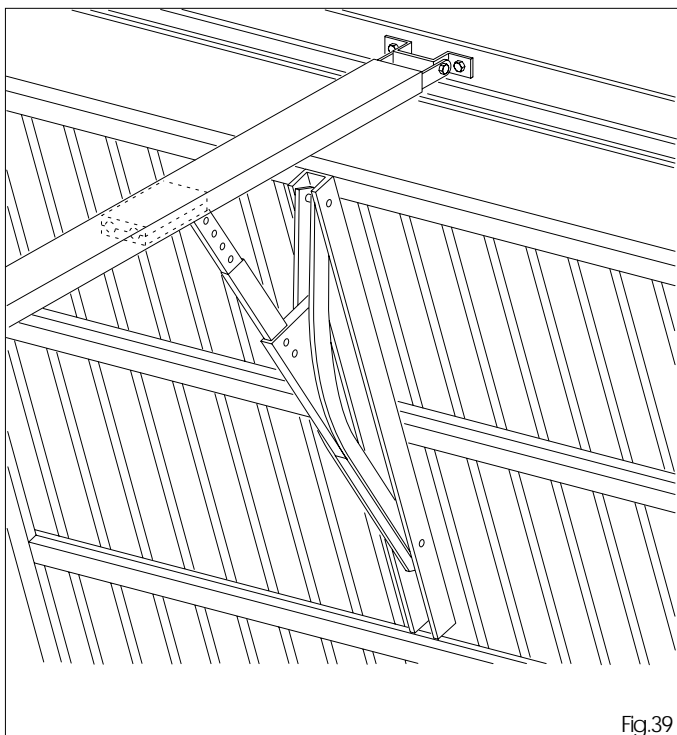

Fig.39
- Counterbalanced doors can be automated by using the accessory shown in fig. 39 (GDA 3000).